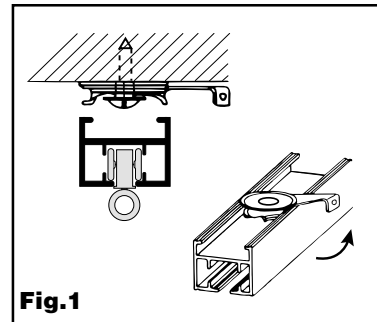
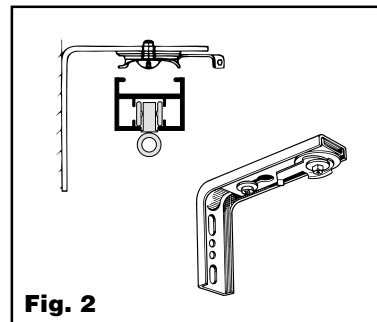

Fig. 1
Fig. 2
1. Mount bracket hardware to the ceiling (**Fig. 1**) or wall (**Fig. 2**), depending on your specific application. **NOTE: Make sure all screws are mounted into firm material with enough strength to hold track and drapery load. Do not over tighten screws on the clips or they will be impossible to rotate. Do not apply load to sheet rock or soft materials!!**